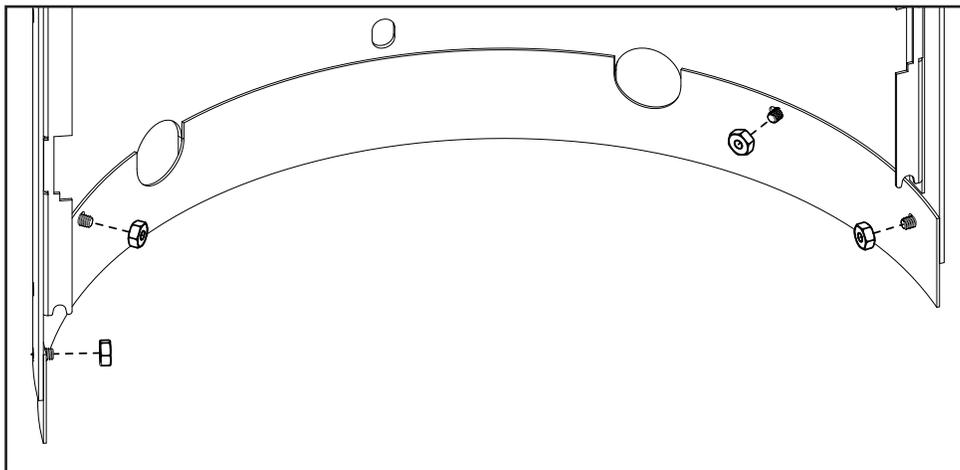

Figure 30: Rear Skirt Removal
Remove the four (4) nuts retaining the rear skirt using a 3/32" (or 9mm) socket (see Figure 30).